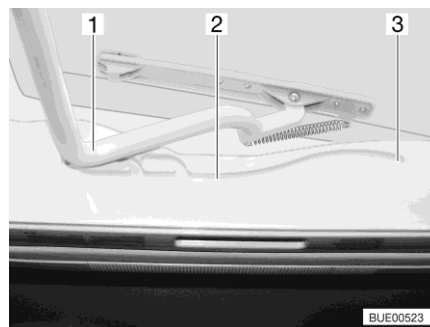

Fig. 95 Guide (Heki skylight)
- Pull the bar (Fig. 95,1) in the guides (Fig. 95,2) to the rearmost position (Fig. 95,3).
- Use both hands to push the bar (Fig. 95,1) slightly upwards.
- Pull the bar in the guides (Fig. 95,2) to the desired position.